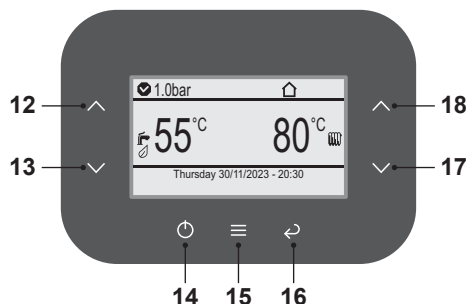
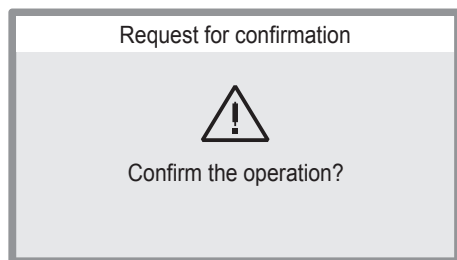

Fig. 8.46
Fig. 8.52
- Press key 15 (Fig. 8.46) to go to the main menu (Fig. 8.47).
- Press key 12 or 13 (Fig. 8.46) to select the desired menu (Fig. 8.48).
- Press key 15 (Fig. 8.46) to access the selected menu (Fig. 8.49).
- Press key 12 or 13 (Fig. 8.46) to select the desired menu (Fig. 8.50).
- Press key 15 (Fig. 8.46) again to highlight the value to be changed.
- Press key 15 (Fig. 8.46) to access the selected menu (Fig. 8.51).
- Press key 15 (Fig. 8.46) to access the selected menu (Fig. 8.52).
- Press key 15 (Fig. 8.46) again to confirm the RESET.
- Press key 15 (Fig. 8.46) to confirm the change or key 16 to exit without changing the value (return to previous level).